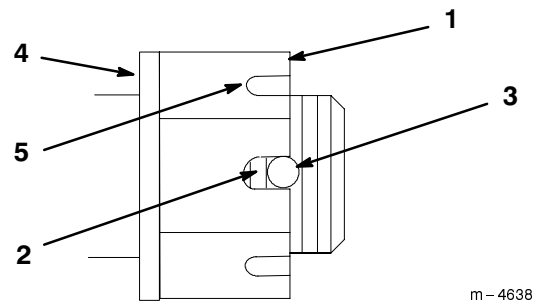

Figure 56
3. Torque slotted nut to 125 ft.-lb. (169.5 N•m) (Fig. 56).
4. Check the distance from bottom of slot in nut to inside edge of hole. Two threads or less should be showing (Fig. 56).
5. If more than two threads are showing remove nut and install washer between hub and nut (Fig. 56).
6. Torque the slotted nut to 125 ft.-lb. (169.5 N•m) (Fig. 56).
7. Tighten nut until the next set of slots line up with the hole in the shaft (Fig. 56).